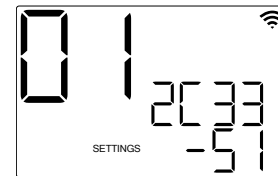

Figure 511
6. If the Receiver has paired correctly to the transmitter, the transmitter display will illuminate the unit ID, the RSSI signal strength located in the bottom right corner, and a solid Wi-Fi icon. (Figure 511)